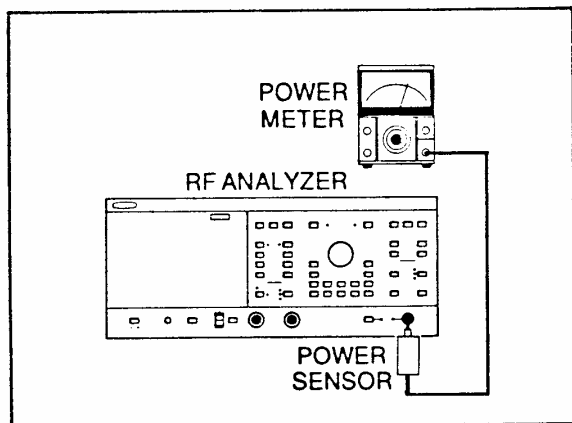

Figure 6-11. Overall Gain Calibration Test Setup
3. Connect the power meter as shown in Figure 6-11.